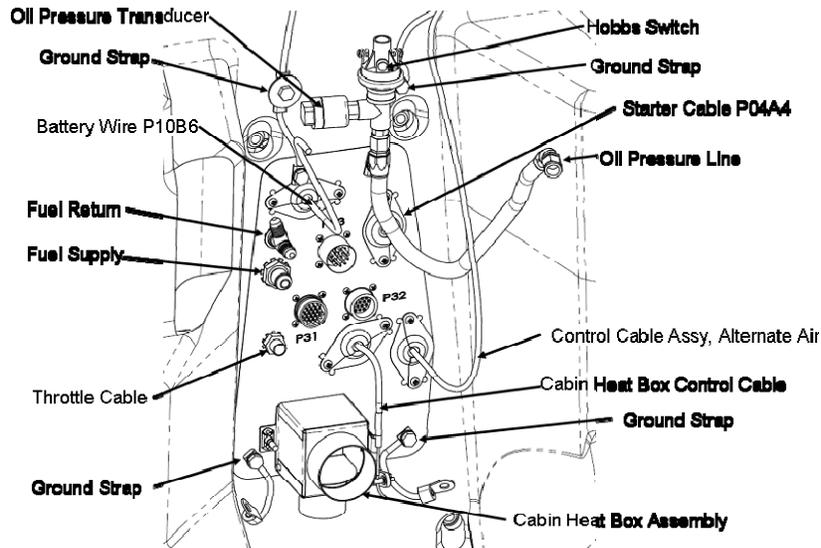

Figure 71-37 Tunnel Firewall Assembly Connects - Engine
8. Connect the following from the Tunnel Firewall Assembly engine side as shown in Figure 71-37. Torque all bolts to specifications for individual component installations. See Chapter 20 – *Standard Practices*.